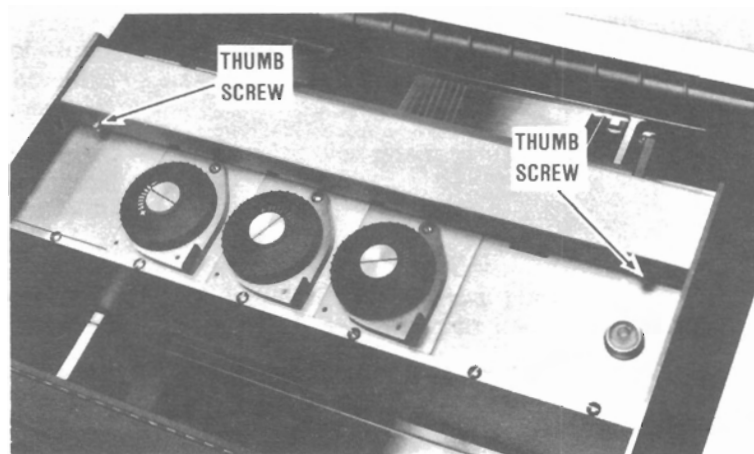
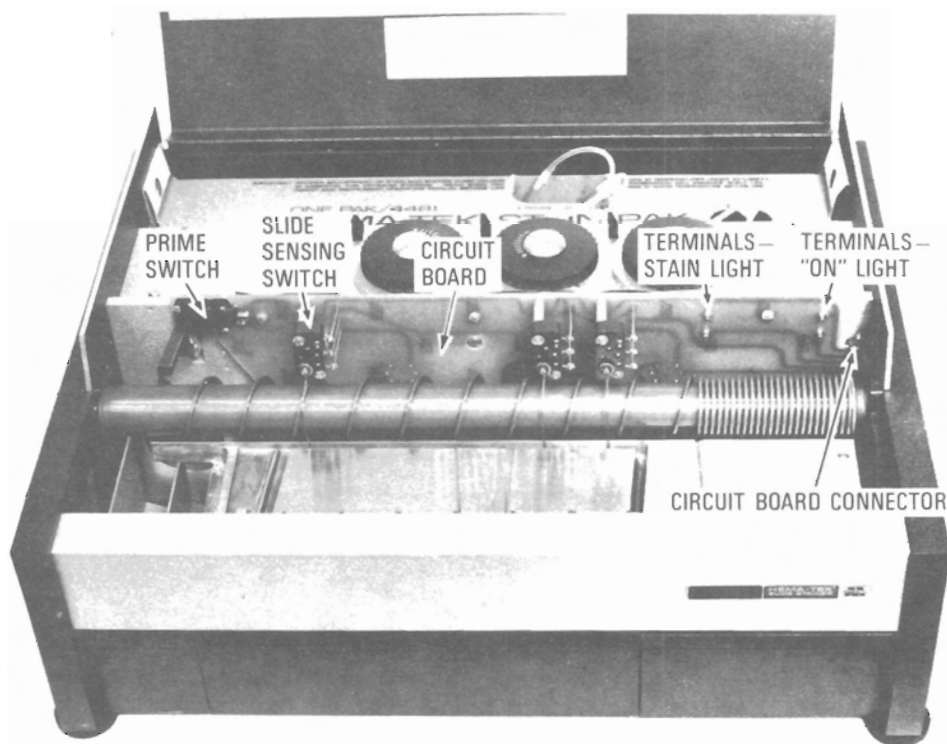

Figure 8-1
Figure 8-2
3. Loosen two thumb screws (Figure 8-1) inserted through notches in back of top front panel. Lift panel from front wall exposing printed circuit board and leads for "STAIN" pilot light and "ON" signal light. (Refer to Figure 8-2.)
NOTE: Front panel cover must be seated properly to activate safety interlock switch (Figure 8-1).
2. Loosen two thumb screws and carefully remove the front panel. (See Figure 8-1.)
1. Loosen two thumb screws and carefully remove front panel. (See Figure 8-1.)